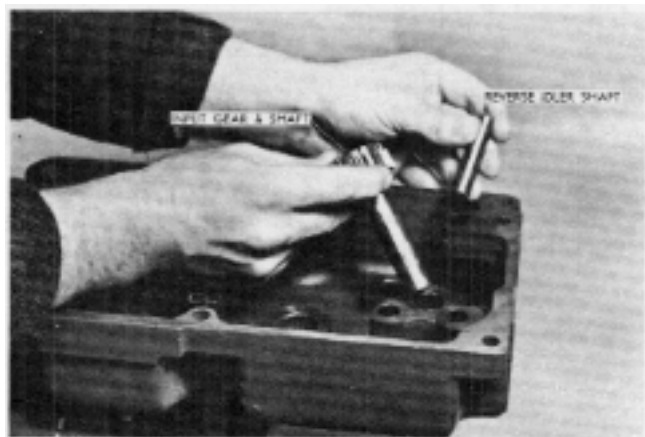

FIGURE 9
15. Remove the reverse idler shaft and the input shaft and gear. See Figure 9. Note: The reverse idler shaft may sometimes stick in the left hand case.